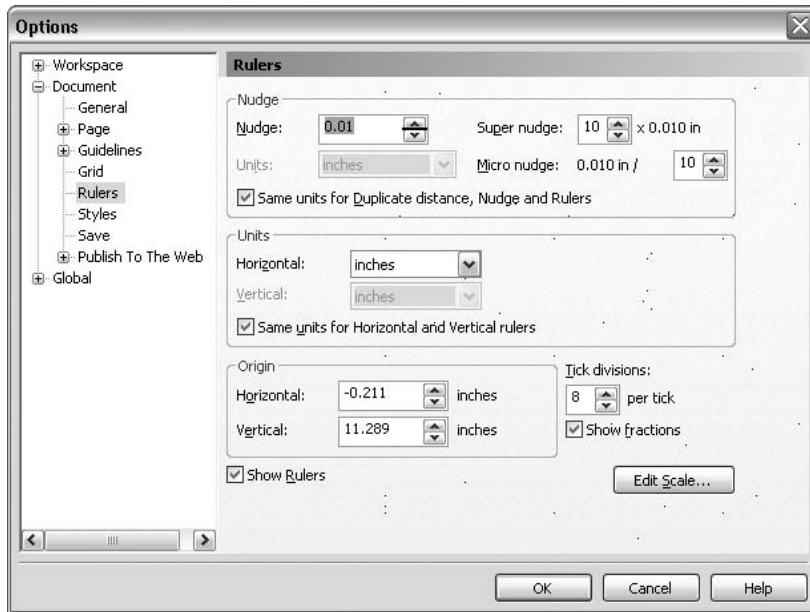

FIGURE 6-5 The Rulers area of Options is where you can set units, the independent display of units on Rulers, nudge distance, and more.
Options for measuring in CorelDRAW can be found in Tools | Options; to get to this dialog quickly, you double-click a Page Ruler. Alternatively, you can right-click a Ruler and choose Ruler Setup from the pop-up menu. In the Rulers area of the Options box, you'll find useful options in addition to the increments displayed on Rulers. See Figure 6-5.
- **Units** Units are measurement values. Choose a Horizontal unit measure to specify unit measures for all Drawing Units in your document. To specify different unit measures for Vertical Ruler and Drawing Units, click to deselect the Same Units For Horizontal And Vertical Rulers option, shown in Figure 6-5.